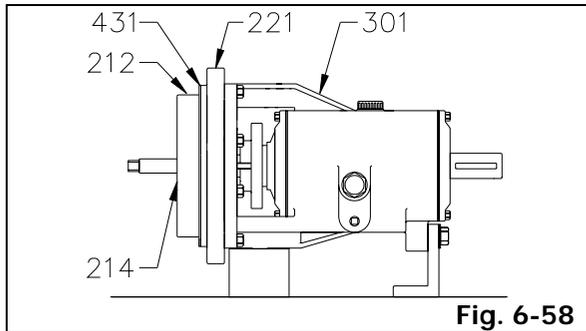

Fig. 6-58
3. Install stuffing box cover (212) assembly, with end ring (214), packing (201),
stuffing box cover gasket (431) and stuffing box cover studs as a unit onto bearing bracket (301) or adaptor extension ring (221) (Fig. 6-58).